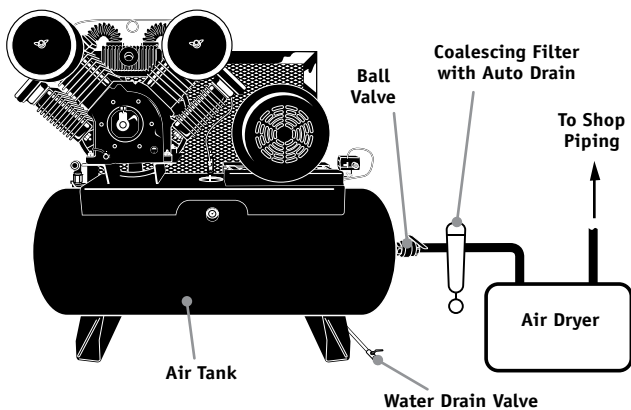
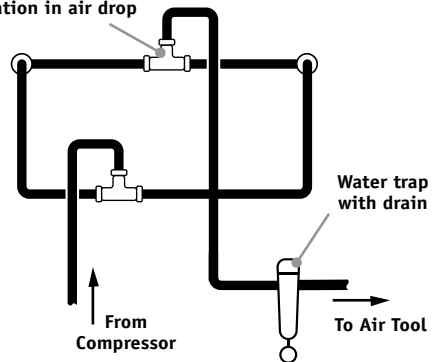

Figure 2: Basic Piping Diagram
Figure 3: Closed Loop Installation
- Install appropriate ASME code safety valves and make sure piping system is equipped with adequate condensate drains. See figure 2. Refer to figure 3 for recommended closed loop installation.